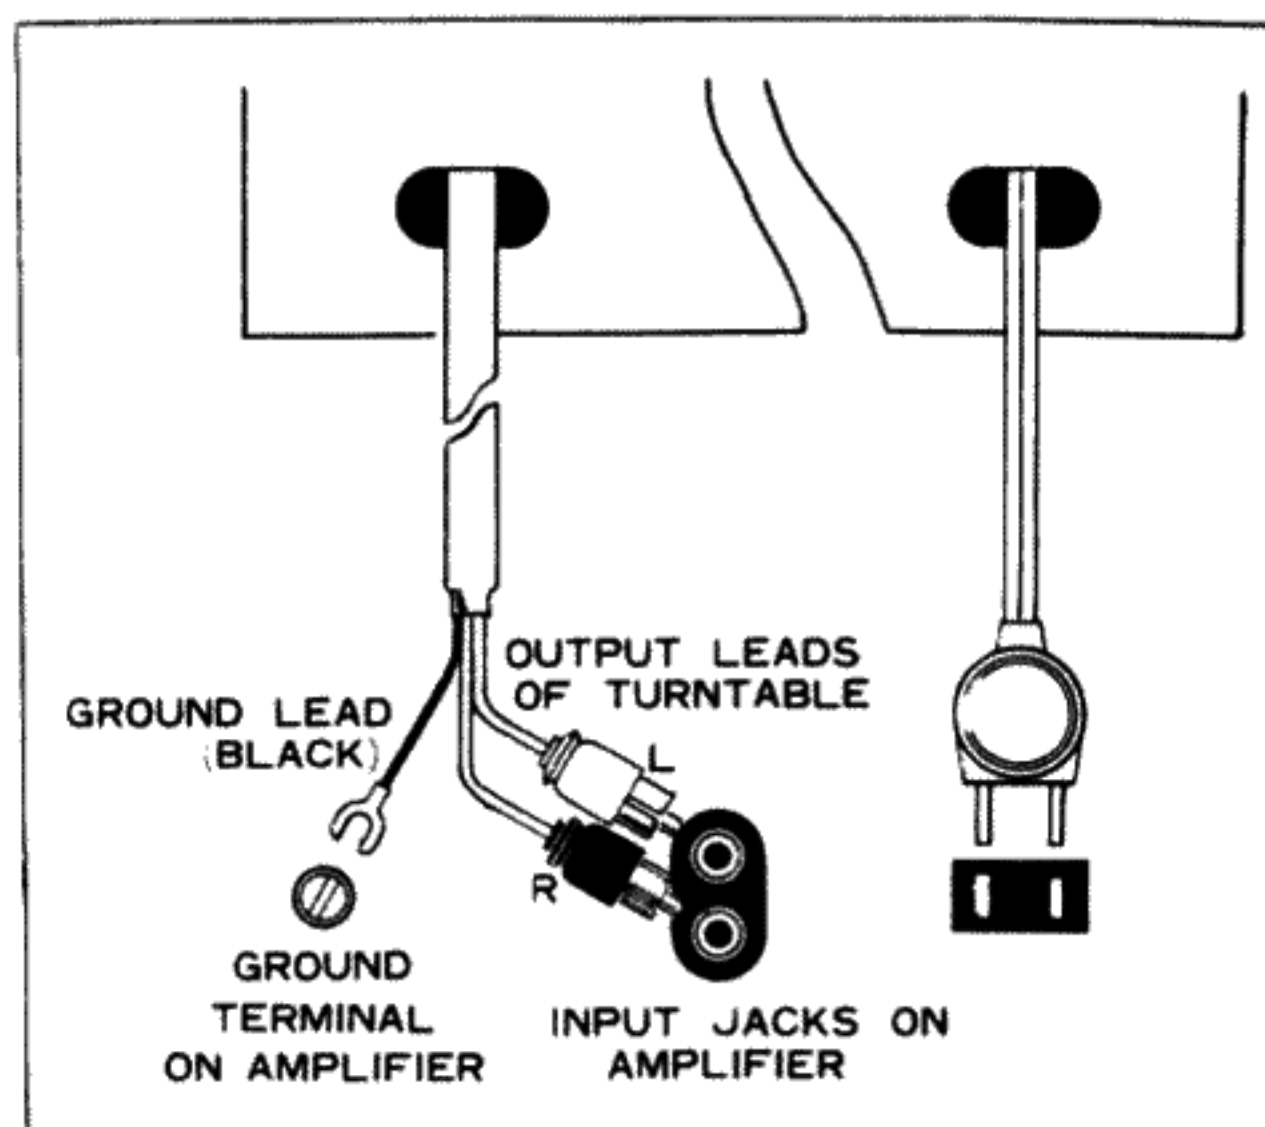

Fig. 18
- The "L" lead has a pin plug for connection to the left channel input jack on your amplifier, and the "R" lead, a similar pin plug for connection to the right channel input jack. The black lead has a terminal lug for connection to the grounding terminal on your amplifier. (Fig. 18)